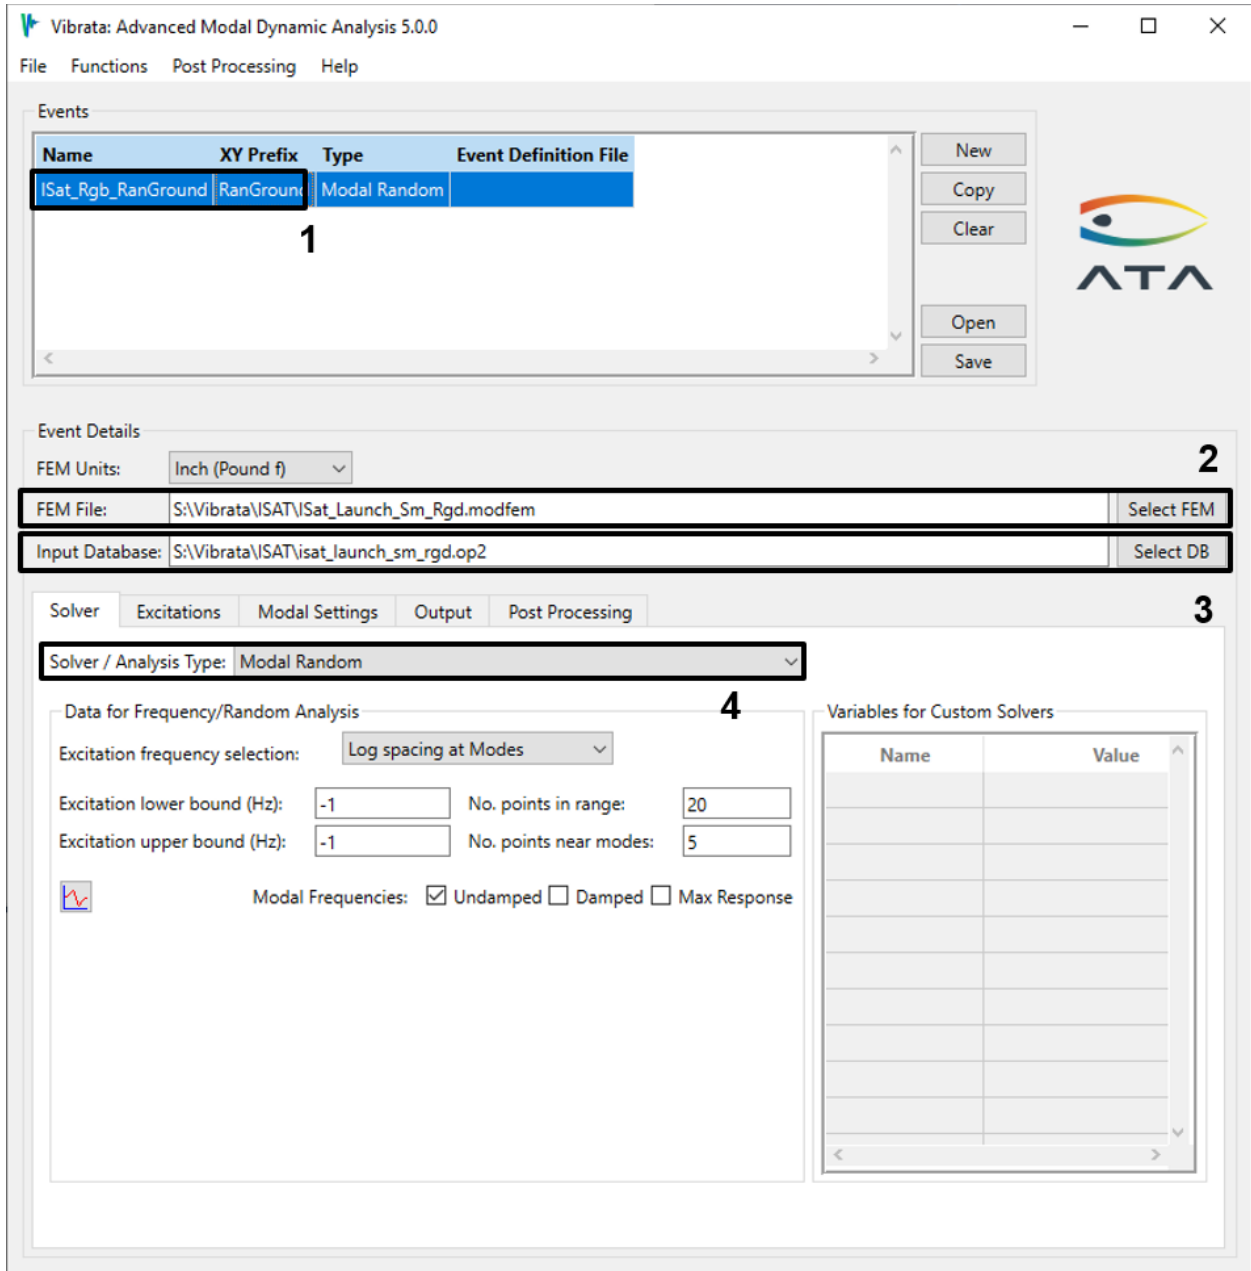

Figure 4-41. Create a new random analysis event.
2. Start a new event using the previously created modfem for the FEM and "isat\_launch\_sm\_rgd.op2" for the results. Set the *Solver/Analysis Type* to *Modal Random*. Be sure to enter a recognizable event name (Figure 4-41).